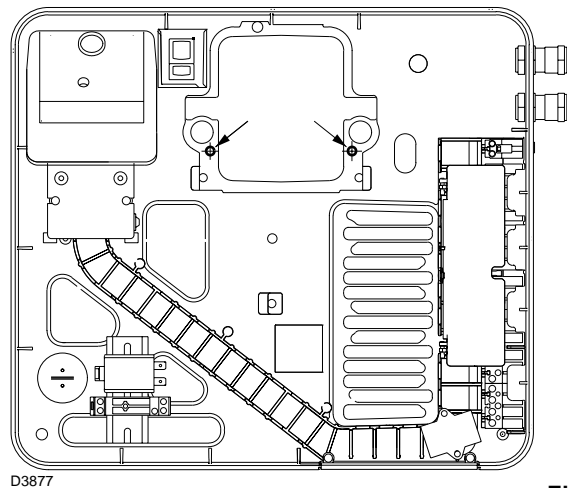
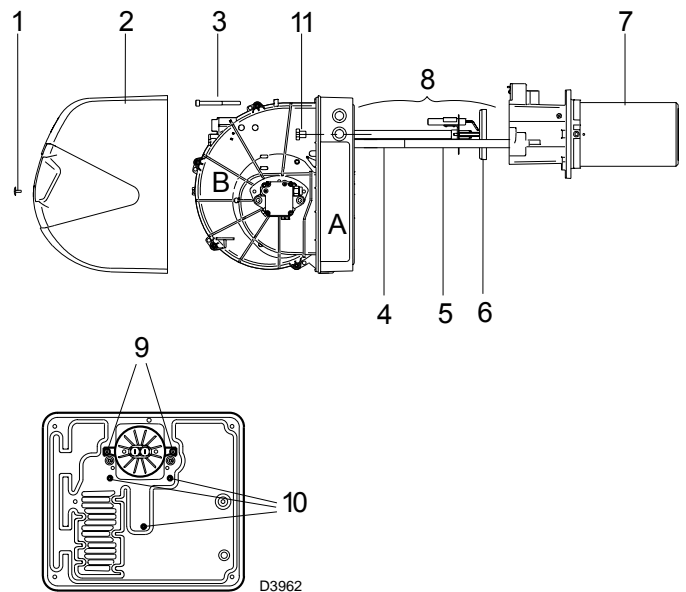

Fig. 30
Fig. 32
If it is necessary to maintain the electrical panel A)(Fig. 32) it is possible just to remove the fan assembly B)(Fig. 32) to get better access to the electrical components.
With the burner open as in Fig. 32, disconnect the electrode cables and remove the head unit 8)(Fig. 32) by undoing the two screws 9)(Fig. 32).
Disconnect the cables relative to the fan motor, remove the 3 screws 10)(Fig. 32) on the protective sheet and the two screws 11)(Fig. 32) and slide out the fan assembly B)(Fig. 32) from the guides 4) - 5)(Fig. 32).
Finally it is possible to use 2 of the 3 screws 10)(Fig. 32) to fix the electrical panel to the pipe coupling in the points indicated on Fig. 30, and then perform the maintenance operations.
- Remove screw 1)(Fig. 32) and withdraw the casing 2);